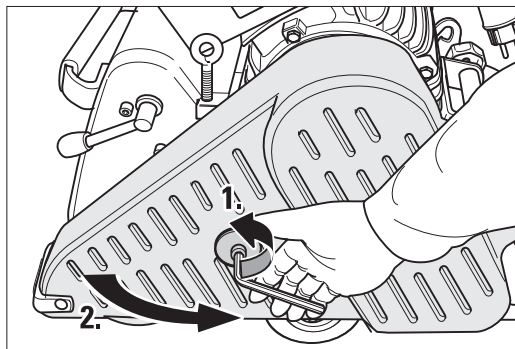
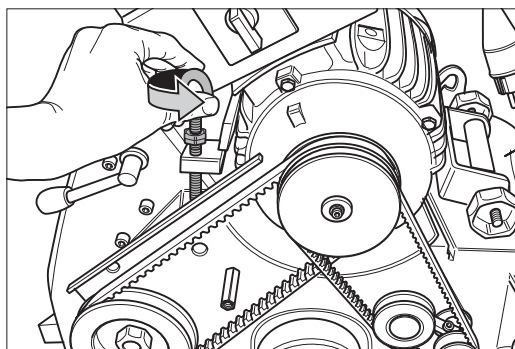

Fig. 18 Open the belt guard.
Fig. 19 Release the V-belt tension by loosening the eye bolt.
- 3 To remove the V-belt, open the belt guard (Fig. 18) and release the tension on the V-belt by releasing the eye bolt (Fig. 19).